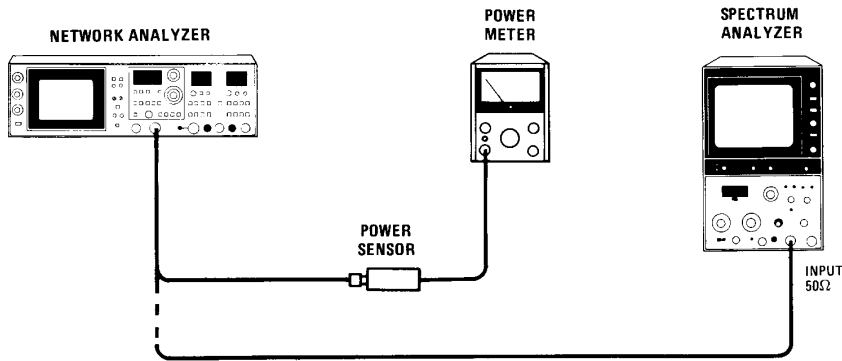

Figure 5-13. OUTPUT dBm Calibration and Harmonics Adjustment Test Setup
- a. Connect equipment as shown in Figure 5-13 without connecting spectrum analyzer.